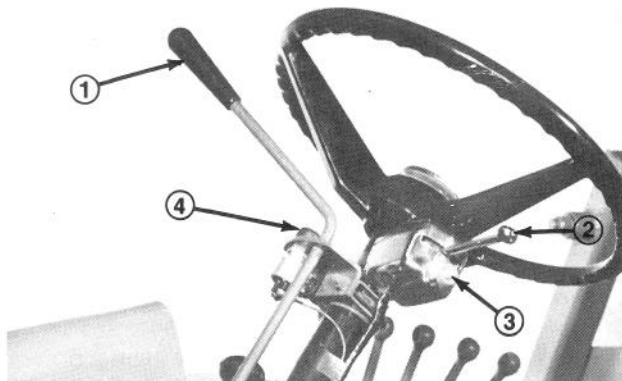

Figure 22
HAND THROTTLE – OPTIONAL KIT (Gasoline) (Fig. 22)
C. Turn Signal Controller (Fig. 22).
D. Emergency Flasher Control (Fig. 22).